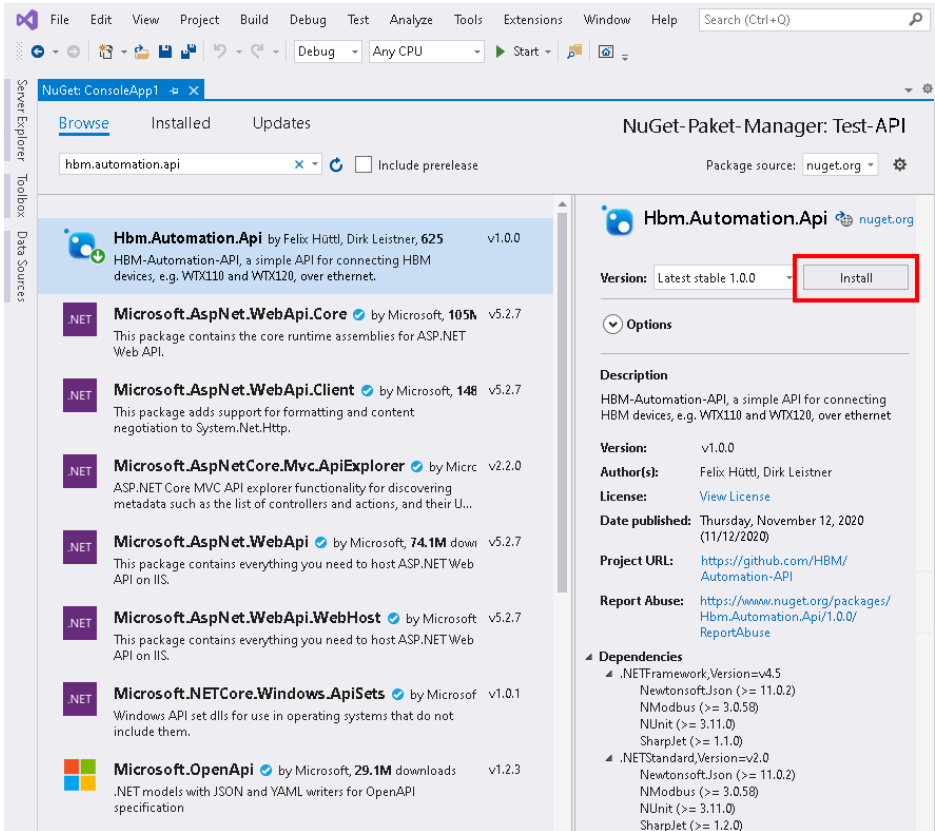

Fig. 4.3 Installing the HBM Automation API
- ▶ Select the entry and click ***Install*** (Fig. 4.3).